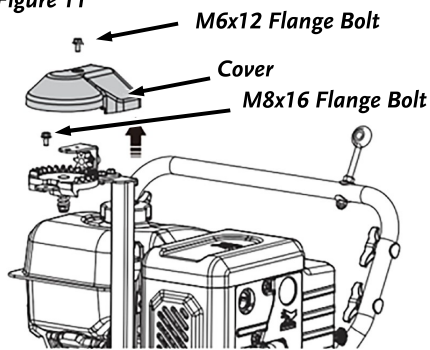

Figure 12
2. Remove the Cover by removing the M6x12 Flange Bolt and the M8x16 Flange Bolt from the Chute Rotation Support (**Figure 12**).